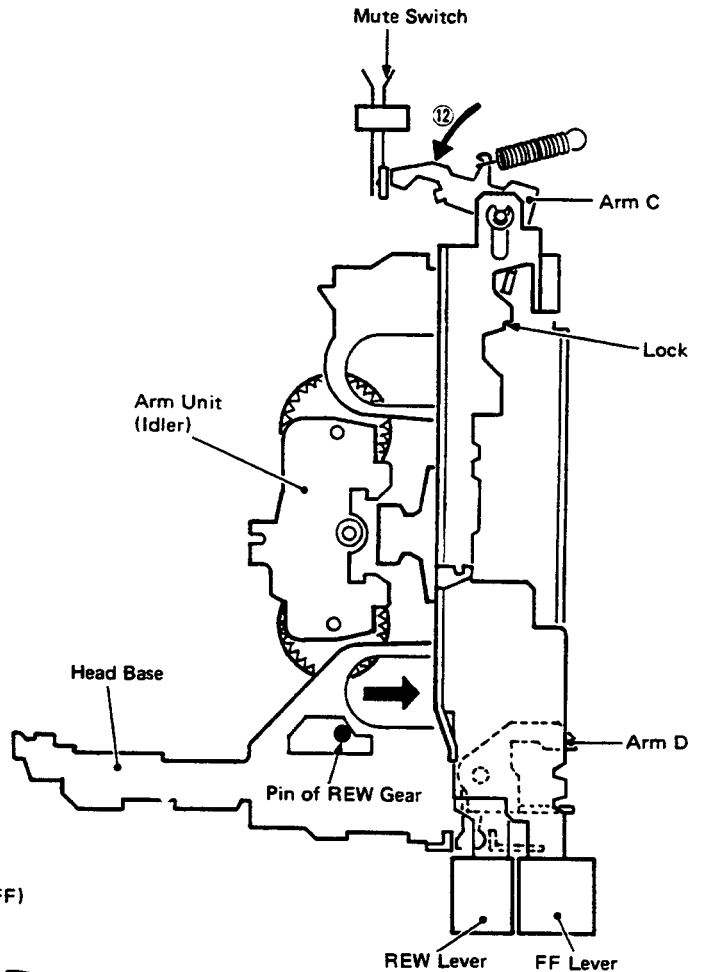

Fig. 23
2. Point G pushes against the arm of Fig. 23, causing the head base to return back.